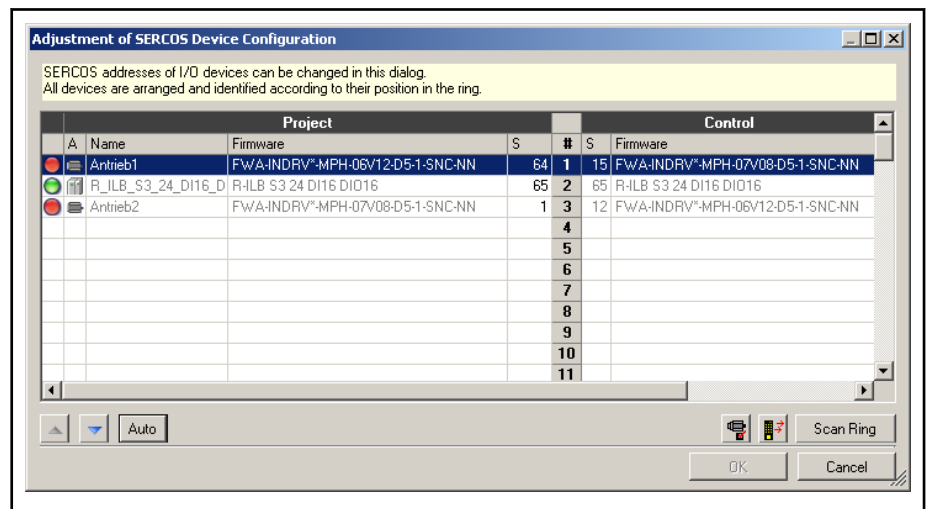

Fig.9-3: "sercos Device Configuration" dialog after pressing the **Auto** button
2. Click on **Auto**. IndraWorks tries to adapt the projected devices to the actually found devices to match them the best possible (see fig. 9-3 "sercos Device Configuration" dialog after pressing the Auto button on page 349). All unsuitable projected I/O devices are disabled. In the first column, traffic light symbols are used to show how well the command configuration matches the actual configuration. The traffic light symbols have the following meaning: